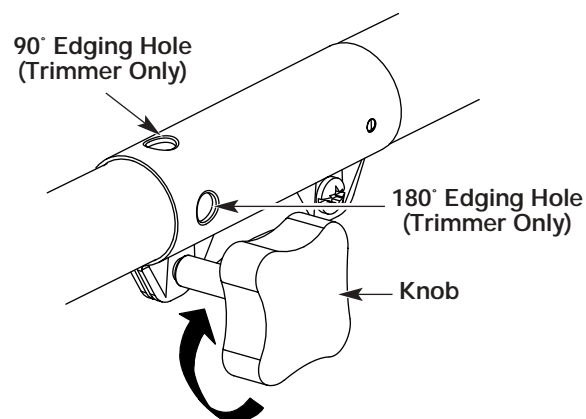

Fig. 25
3. Turn the knob clockwise to tighten (Fig. 25).
For edging (when using the line head cutting attachment with EZ-Link™ models), lock the release button of the cutting attachment into the **90° edging hole** or the **180° edging hole** (Fig. 25).